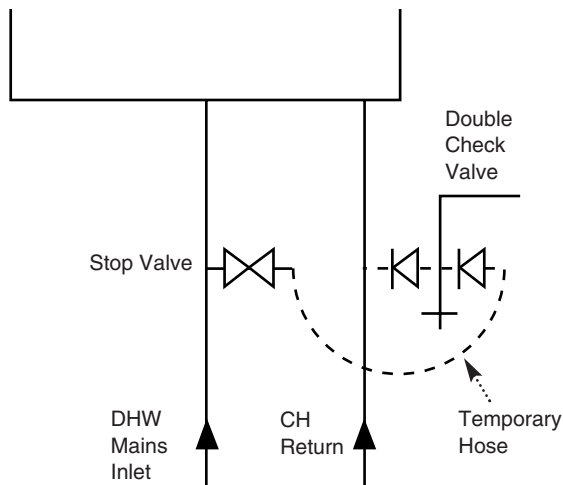

Fig. 8
4. The sealed primary circuits may be filled or replenished by means of a temporary connection between the circuit and a supply pipe, provided a 'Listed' double check valve or some other no less effective backflow prevention device is permanently connected at the inlet to the circuit and the temporary connection is removed after use (Fig. 8).